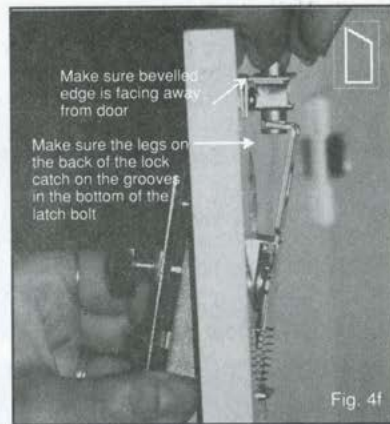

Fig. 4f
3. Place the latch bolt in the latch bolt guide - while holding the latch bolt with one hand, place the entire lock assembly into the slot with the other hand. (See fig. 4f)